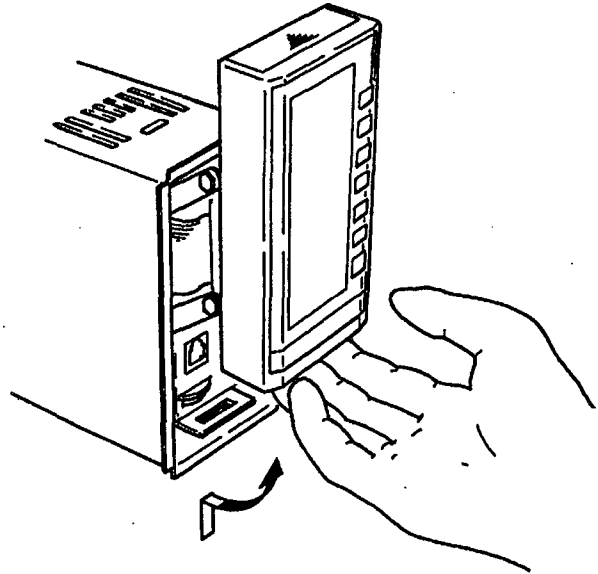

Figure 3.3 Swinging Up 2
- ② Push up the front panel (see Figure 3.3).